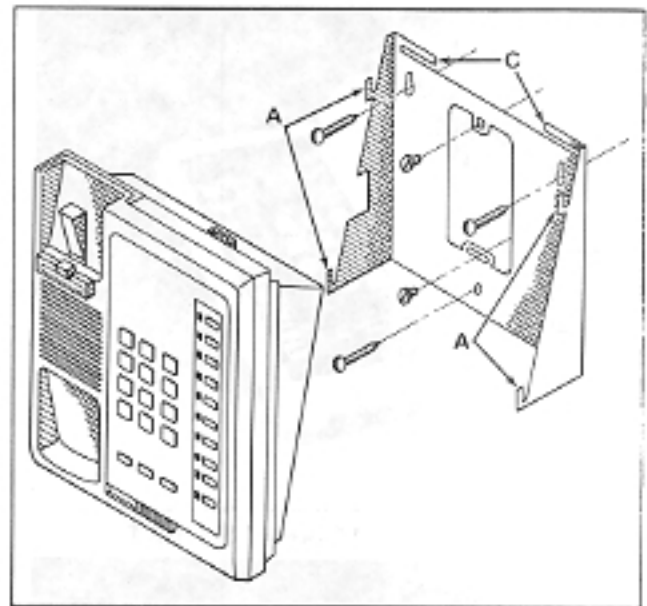
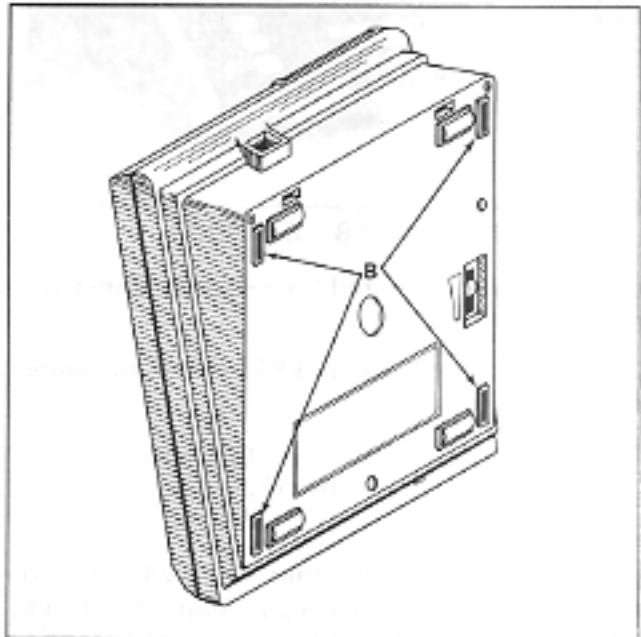

FIGURE 21—WALL MOUNT BRACKET
FIGURE 22—BRACKET SLOTS
10.14 With the wall bracket the "S" EKT can be mounted to any suitable vertical surface or to a telephone outlet plaster ring (see Figure 21). Secure the wall bracket to the desired wall site, and use a spirit level, if necessary, to make certain the bracket is level.
10.16 mating the bracket's four hooks (A—Figure 21) with the four slots on the EKT base (B—Figure 22) and sliding the EKT downward. The EKT is secured in position by bending the two tabs (C—Figure 21) forward in order to prevent upward motion of the EKT.